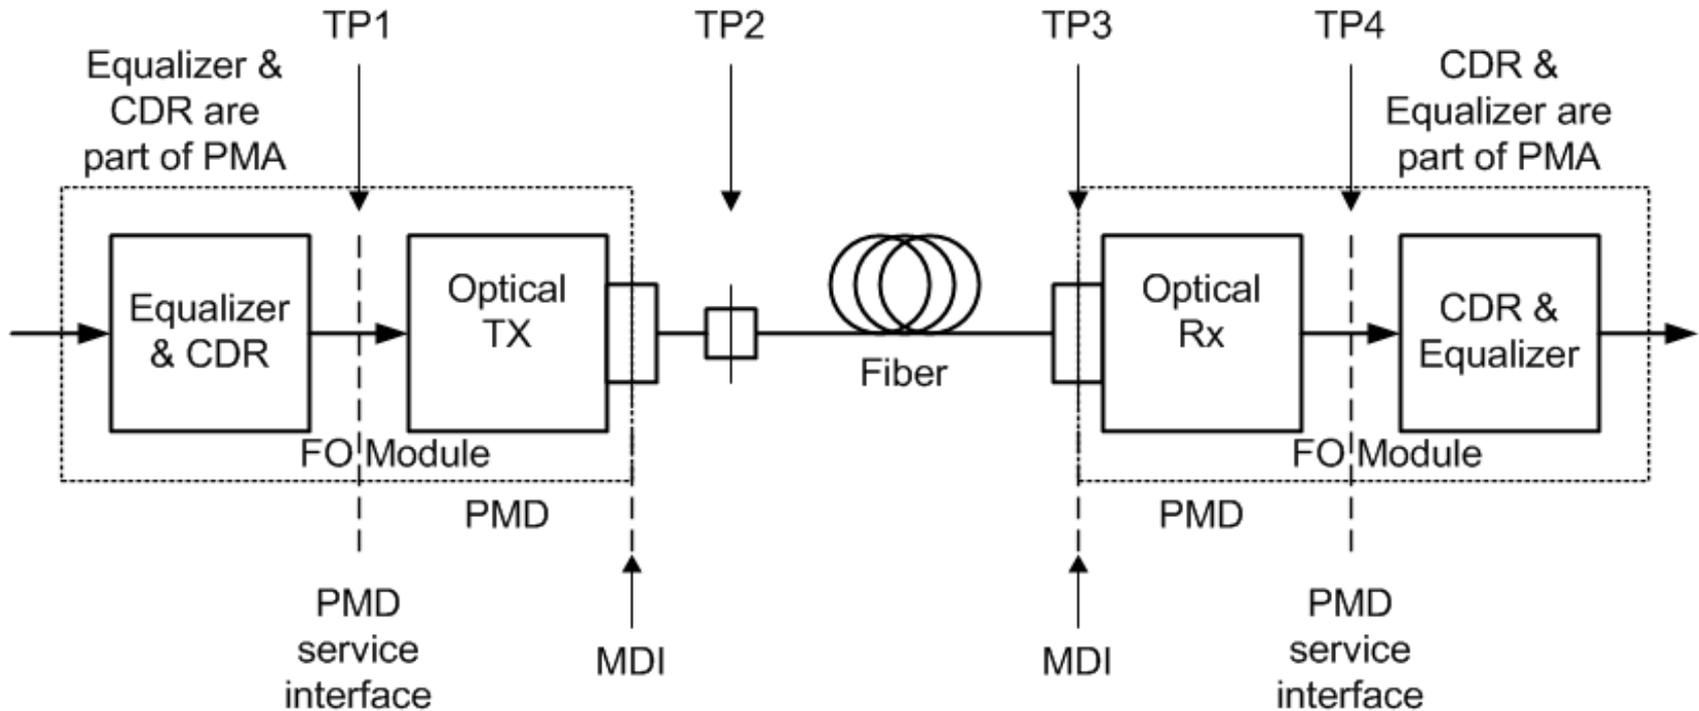

Figure 1
- For cases, as shown above in Figure 1, where retimers are incorporated in the optical module, the PMD service interface is not exposed. TP1 and TP4 remain as points on the PMD service interface and, consequently not exposed.
Nomenclature: Terms TP1, TP2, TP3 and TP4 are used as defined in 802.3 clause 88 and shown in above Figure 1. Note that TP1 is downstream of the input CDR and equalizer for an optical transmitter.